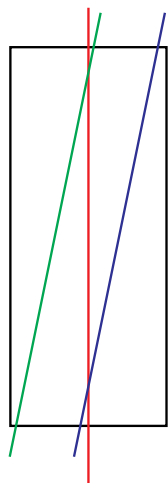

Figure 5. These axes are parallel with each other while intersecting the center axis.
- Axes can also be parallel to each other and can cross (intersect) the center axis (*Figure 5*).